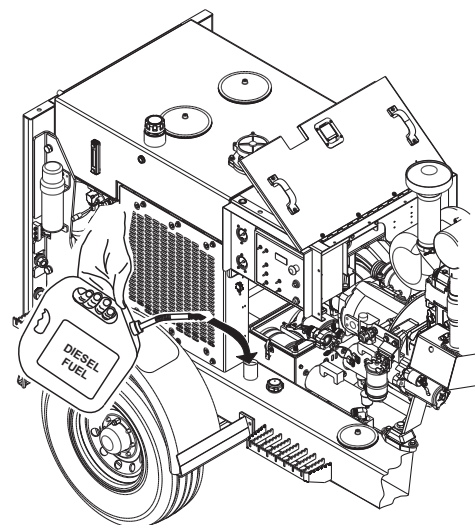

Figure 10. Adding Diesel Fuel
2. If fuel is low, remove fuel filler cap and fill with #2 diesel fuel (Figure 10).